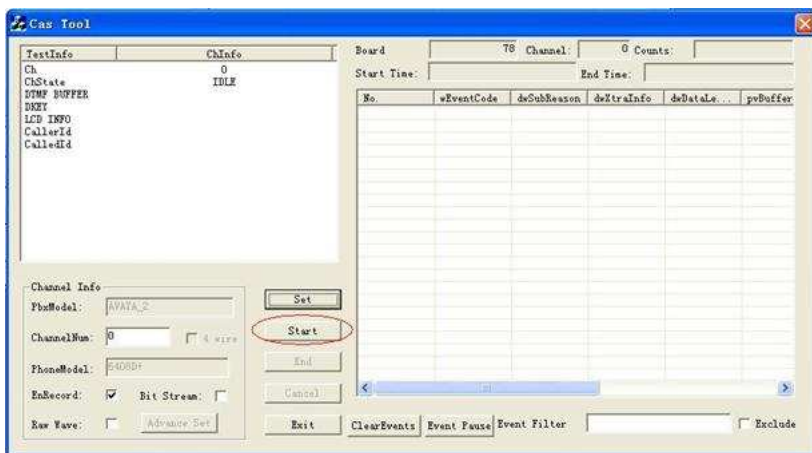

Figure 2-7
**Step 7:** At this time, you can click on the button of 'Start' to record signaling messages as shown in Figure 2-7.